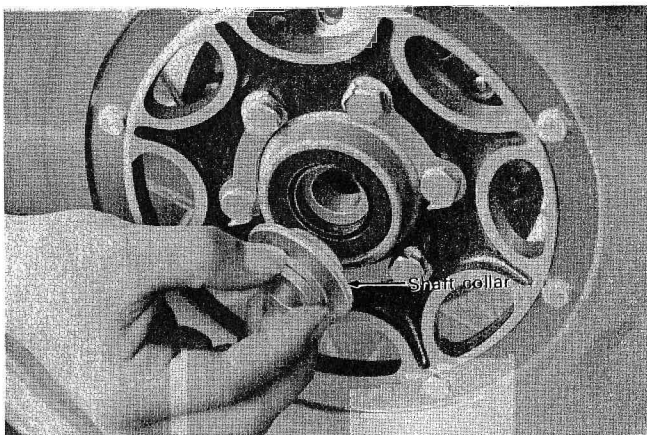

Fig. 11
7. Install the shaft collar (n-2) on the wheel shaft on the front wheel disc side (right side). (Fig. 11)